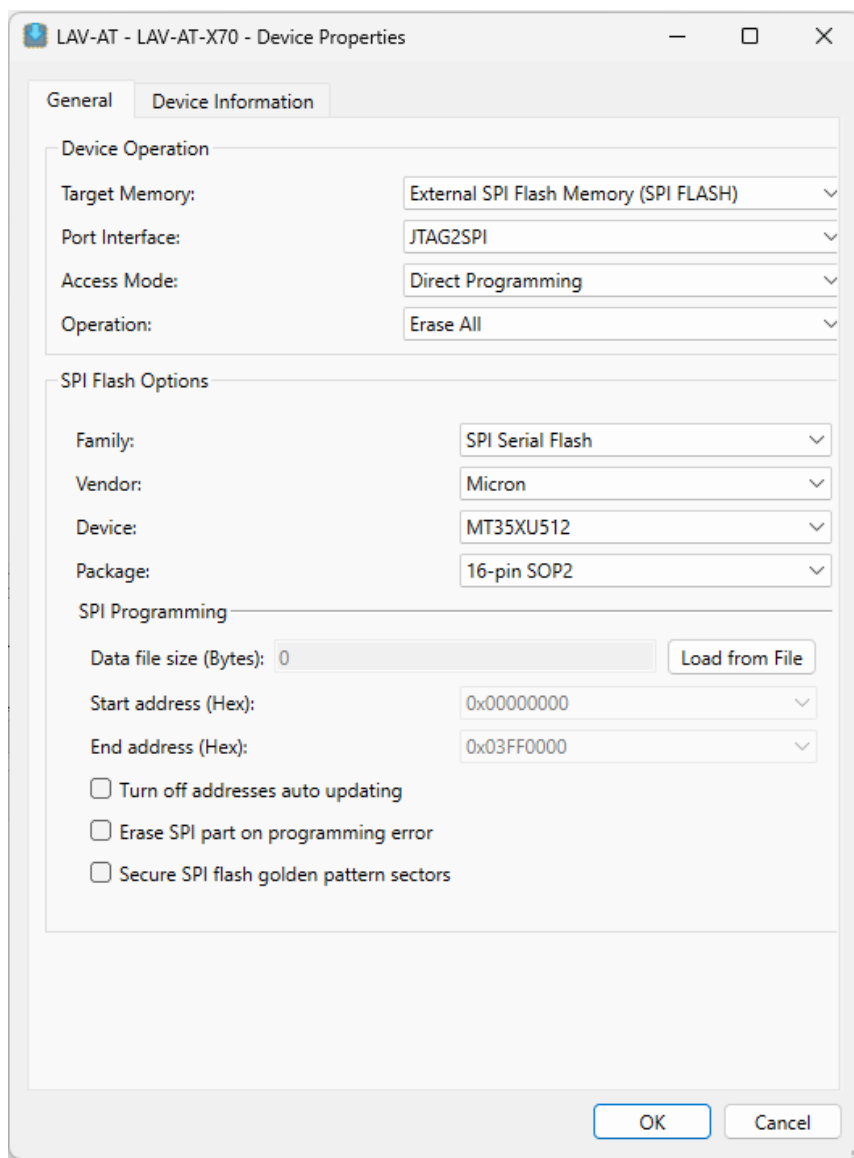

Figure 6.14. Device Properties to Erase the SPI Flash
10. Before programming, you need to erase the entire SPI Flash Memory by applying the settings shown in Figure 6.14.